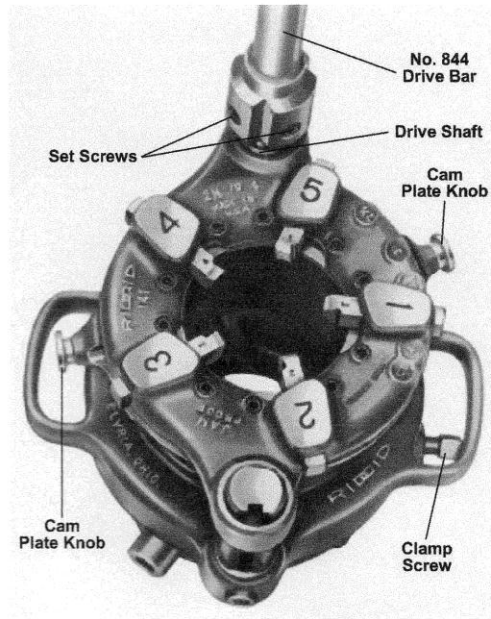

Figure 15 – No. 141 Geared Threader with No. 844 Drive Bar Installed (No. 161 Threader Similar)
2. Pull knobs (Figure 15) of cam plate and rotate cam plate to desired pipe size marking on top of die head. Release knobs when locating pins drop into hole in selector plate.
2. Pull Knobs (*Figure 15*) and rotate cam plate to CD mark on top of die head.
3. Remove worn die set (*Figure 15*) and insert new die set.
1. Place threader on floor or workbench with drive shaft up. Install No. 844 Drive Bar on threader drive shaft and tighten two (2) set screws (*Figure 15*).